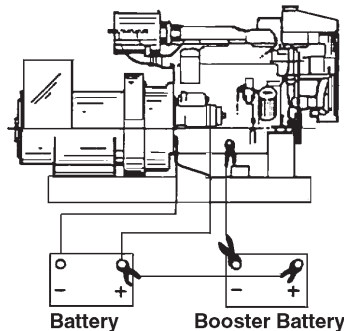

Figure 15:
3. First, connect positive (+) terminal of booster battery to positive (+) terminal of main battery. Then, connect negative (-) terminal of booster battery to ground on the engine block (see Figure 15).